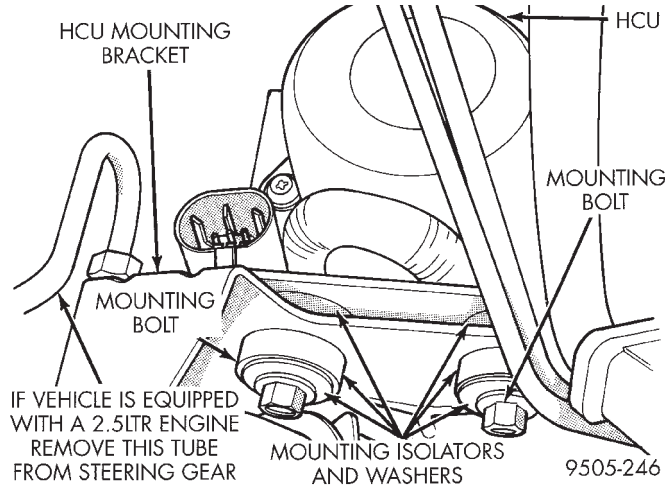
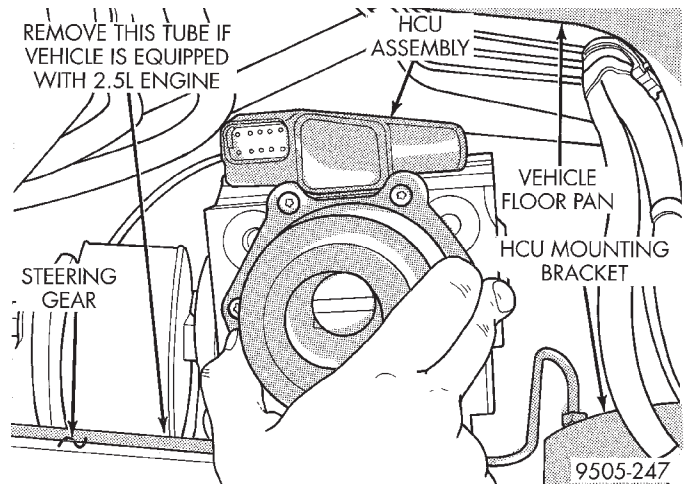

**Fig. 21 Rear Attachment Of HCU To Mounting Bracket**
**Fig. 22 Removal Of HCU Assembly From Vehicle**
(13) Remove the 2 bolts (Fig. 21) attaching the rear of the HCU to its mounting bracket. **If vehicle being service is equipped with a 2.5 ltr. engine, remove the tube as indicated in (Fig. 21) and (Fig. 22). Removing this tube will make it easier to remove the HCU assembly from the vehicle.**
(14) Remove HCU from its mounting bracket. Then remove HCU from vehicle out through the exhaust tunnel in the floor pan of the vehicle (Fig. 22).
(1) Install the HCU back in the vehicle and on its mounting bracket using the reverse order of its removal.
(2) Install mounting isolators, washers and attaching bolts, (Fig. 21) mounting the rear of the HCU to